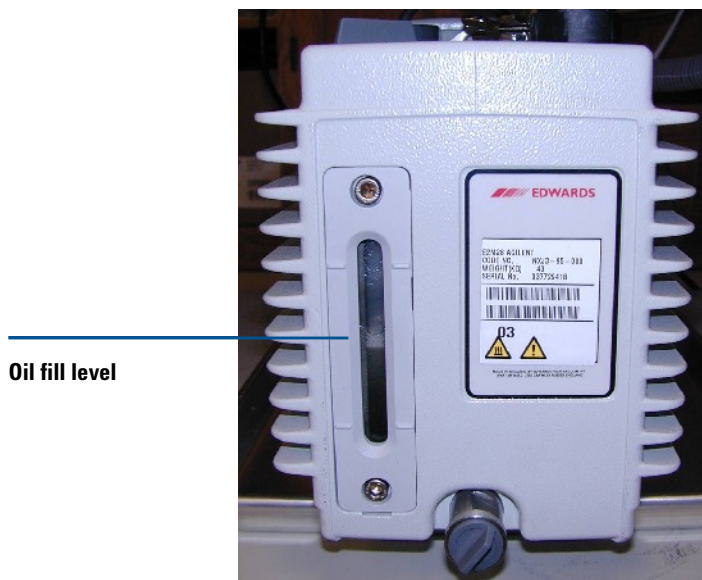

Figure 64 Fluid level window on the rough pump
- Check the fluid level in the window of the rough pump. The fluid level should be between the marks for Max and Min (see Figure 64).